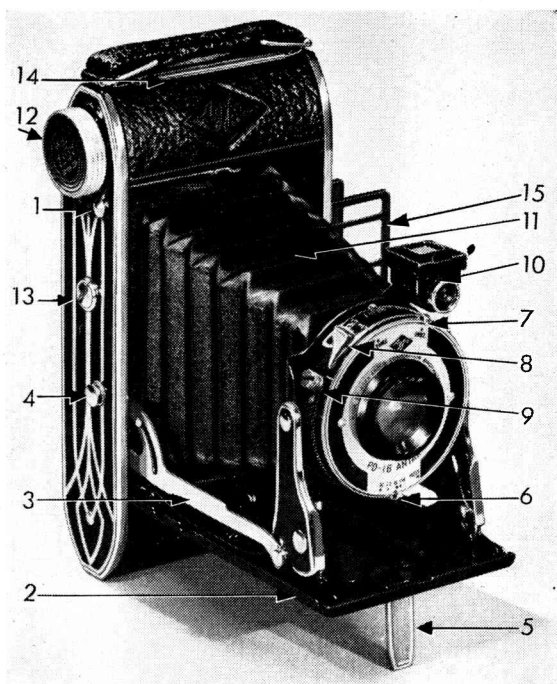
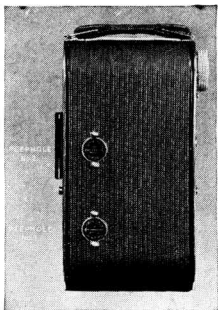

Fig. 1
Fig. 8
CHECK OVER THE CAMERA WITH FIG. 1 BEFORE YOU
To open the camera, hold it in the palm of the left hand and press the opening release button (1, Fig. 1) with the left thumb. With the right hand, pull down the platform (2) until the side-arm braces are locked firmly in place.
To set the shutter for these settings, move the pointer (7, Fig. 1) to a position directly over the desired figure. In the shutter illustration, Fig. 2, the shutter is set for instantaneous, the standard snapshot speed.
The shutter is operated, or "tripped," by the finger release (8, Fig. 1) or by a cable release if such has been added. Care must be taken when the release is pressed down in making an
This diaphragm is operated by means of the lever, (6, Fig. 1), also shown on Fig. 2 set under the numeral 22. This lever is connected with a pointer on the opposite side of the shutter which moves along a similar row of figures on the flange at the top of the shutter. Thus, the diaphragm setting may
The vertical footrest (5, Fig. 1) is for taking Time exposures when a tripod is not available. The footrest is easily extended by pulling it out at right angles to the platform, after which the camera may be set upon a table, ledge, or railing for support.
In order to use the tripod sockets (13, Fig. 1) it is necessary to remove the plug-screws first. This may be done with a small coin, after which the tripod is screwed securely into place. The screws should be replaced after removal of the tripod in order to protect the interior of the camera against dust or other foreign matter which might prove injurious to the shutter mechanism.
To load the camera, it is first necessary to open the back which is held by a catch (14, Fig. 1) at the top under the handle.
Swing open the No. 1 Peephole cover (Fig. 8), and continue turning the winding knob slowly until the figure 1 appears in this lower peep hole. An indicating hand and row of dots will be seen shortly before the first figure appears in place. The camera is now ready for the first picture.
Where fifteen half-size exposures are desired and the masking frame has been left in the camera, both the No. 1 and No. 2 peepholes are used. The first exposure is made with the figure 1 at the lower window. After a picture has been made with the film in this position, the winding knob is then turned very slowly (only about one full turn of the knob is neces-
sary) until the figure 1 appears at the upper or No. 2 peephole. For the third exposure the figure 2 is at the lower window, for the fourth it is moved to the upper, and so on until all fifteen exposures have been made. Do not make an exposure when figure 8 appears at the upper window.